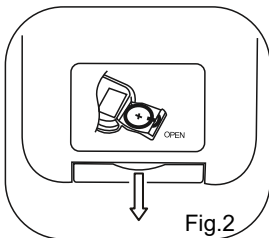

Fig.2
1. Pull out the battery holder as Fig.2.